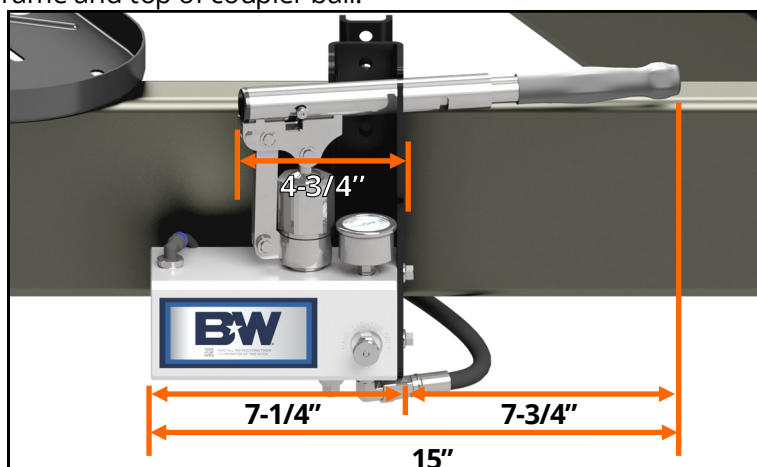

**FIGURE A1:**
- B&W Kit# WDHL4510 is necessary if the top of the coupler is above the trailer frame or *less than 2.5"* below the top of the trailer frame, **see top half of Figure A1.**
- B&W Kit# WDHL4511 is necessary if the top of the coupler is *more than 2.5"* below than the top of the trailer frame, **see bottom half of Figure A1.**